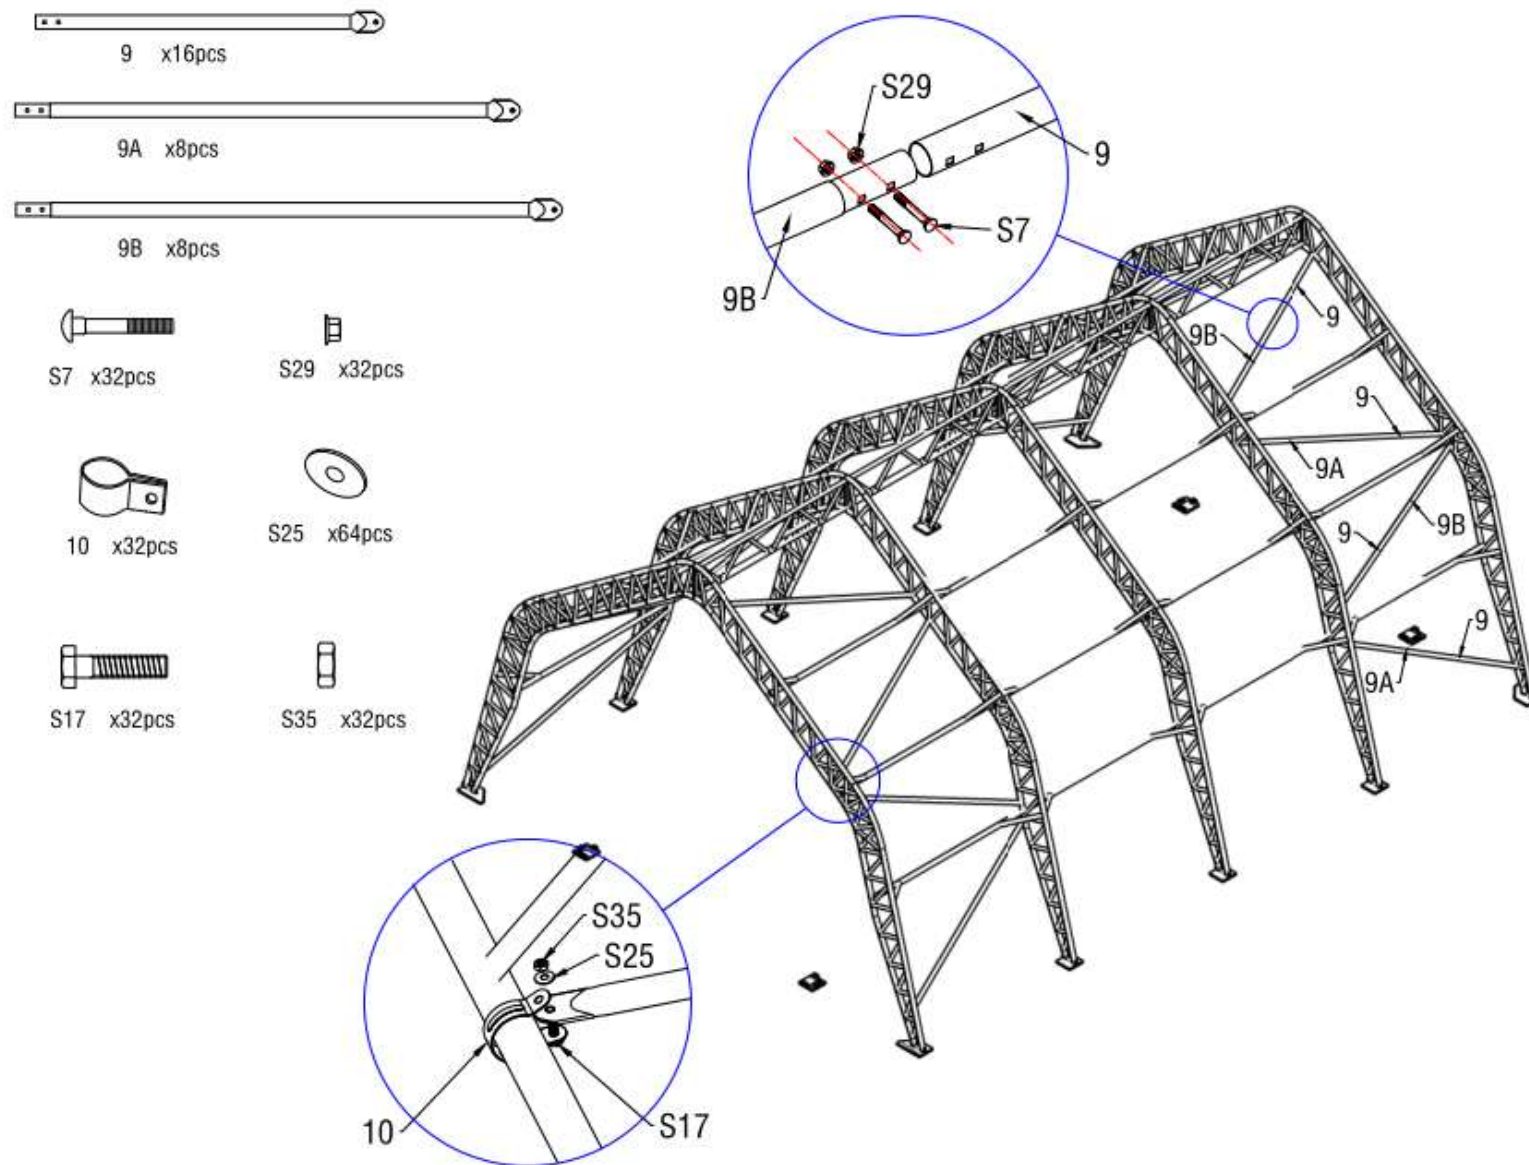

Figure 10
- As figure 10 shown to find Diagonal Support Female Tube(No.9) and Diagonal Support Male Tube(No.9A,9B) and assemble every group support tube with Carriage bolt M8x60(No.S7) and flange nut M8(No.S29). Then connect the diagonal support tube to arch by using clip(No.10).